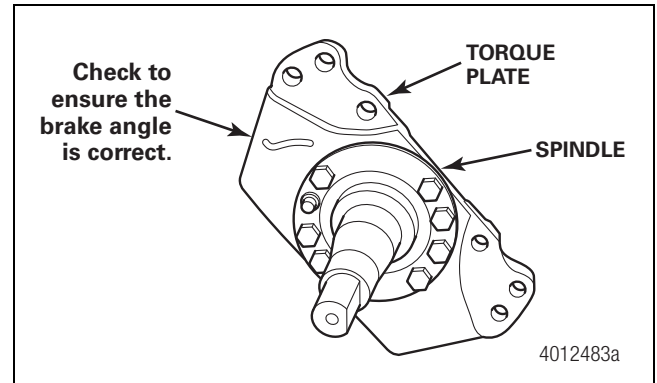

Figure 38
1. Verify the LH and RH positions and orientations for each torque plate. The face with the added wing material should be to the inboard side. Figure 38.